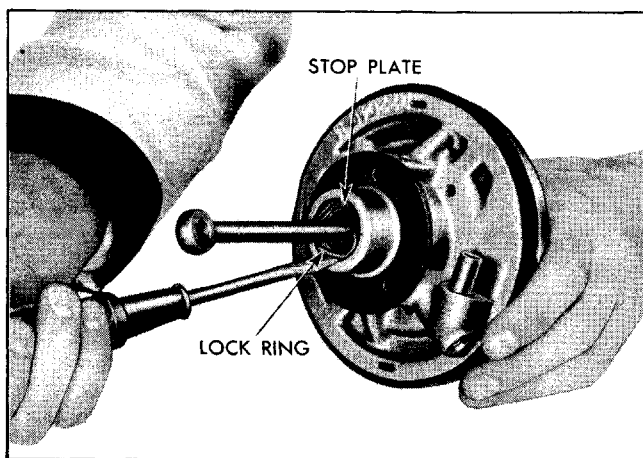

Fig. 5-52 Removing Air Valve Lock Ring
2. Carefully unseat triangular shape lock ring with screw driver to permit removal of push rod and air valve assembly (Fig. 5-52). Exercise caution in removing the lock ring so that it will not flip out and become lost or cause personal injury. Turn power piston assembly upside down. Stop plate washer will slide out of opening in power piston and down onto push rod.